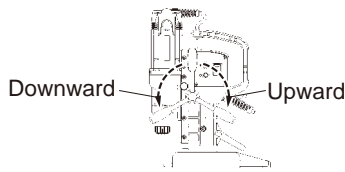

Fig. 10
- Bring the Drill Motor up by turning the Rod Handle clockwise. (Fig. 10)